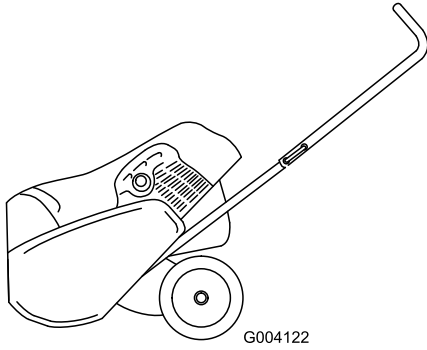

Figure 5
2. Position the upper handle as shown in Figure 5.